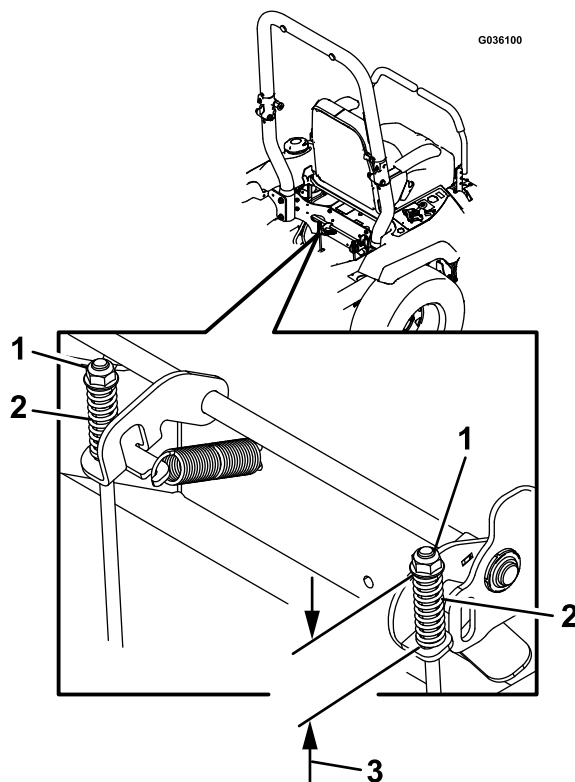

Figure 59
7. Check both spring lengths as shown in Figure 59. If an adjustment is necessary, turn the top nut clockwise to shorten the spring and counterclockwise to lengthen it.